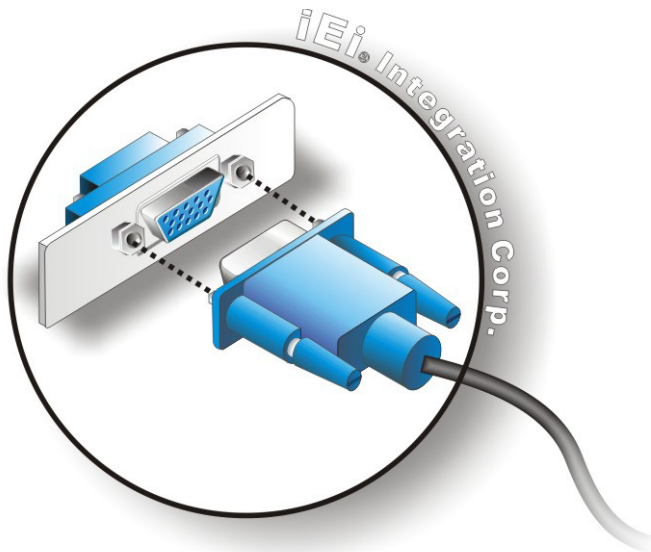

Figure 3-22: VGA Connector
Step 3: Insert the VGA connector Once the connectors are properly aligned with, insert the male connector from the VGA screen into the female connector on the TANK-871-Q170 series. See **Figure 3-22**.